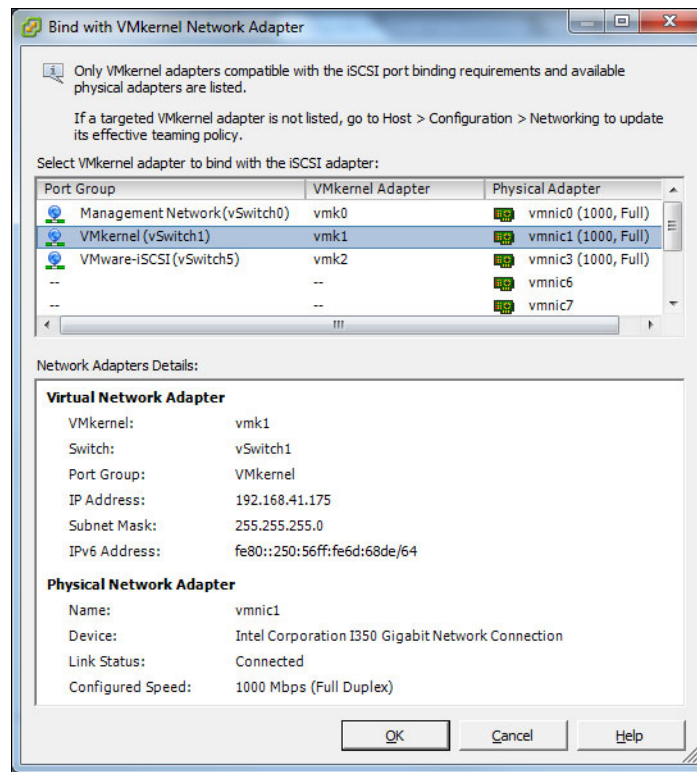

Figure 7-41 Binding with the VMkernel Network Adapter
4. Select the VMkernel interface that you created for iSCSI and click **OK**, as shown in Figure 7-41.